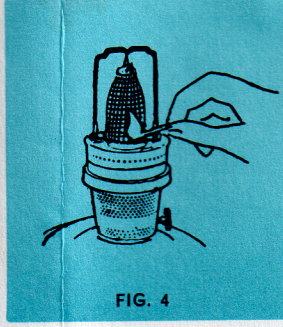

FIG. 4
6. Burn off protective coating by touching *flame* of match to bottom of mantle (Fig. 4). Don't touch mantle with matchstick as this will damage the mantle.
7. Place bottom of Loxon chimney (103) in gallery and lock by turning gently to the right just enough so that chimney doesn't rattle. This will allow the chimney to expand evenly when heated. If locked too tightly, glass strains will be produced when heated, which weaken the chimney and may later cause it to break at the bottom.